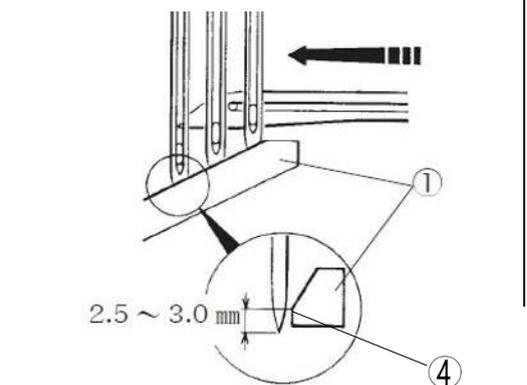

Figure 7-25
(2) Rotate the handwheel clockwise until the hook tip moves to the center of the left needle. (Figure 7-25)